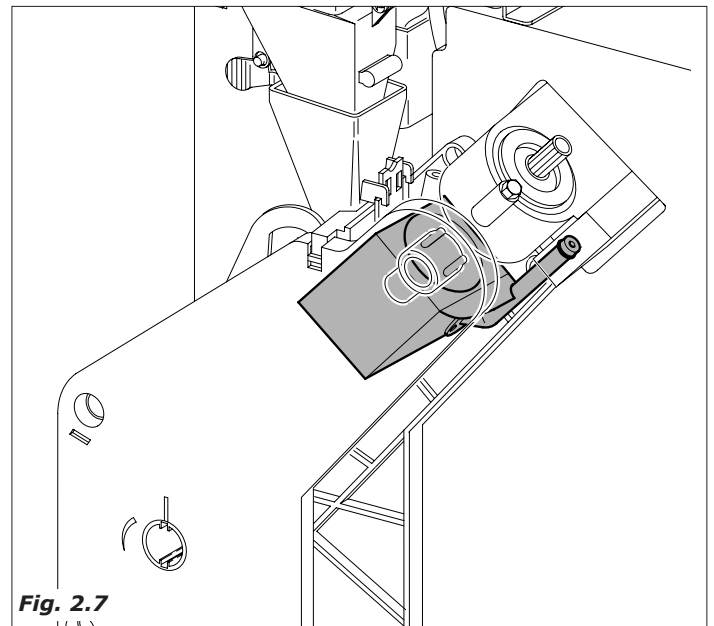

Fig. 2.7
- the pump that dispenses the quantity of programmed water and that is controlled by a specific electronic device, (volume meter), extracting the water from the coffee boiler(Fig.2.7).